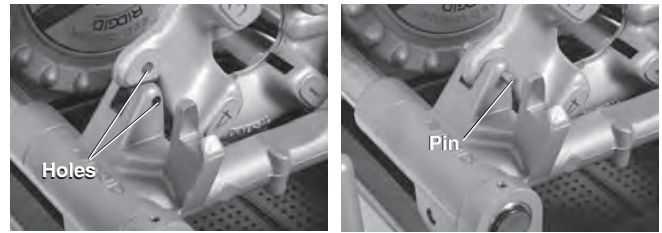

Figure 26 – Retaining LH Die Head in Place
2. Place a  $\frac{5}{16}$ " pin 2" long through the holes in carriage rest and left hand die head to retain in place (see Figure 26).